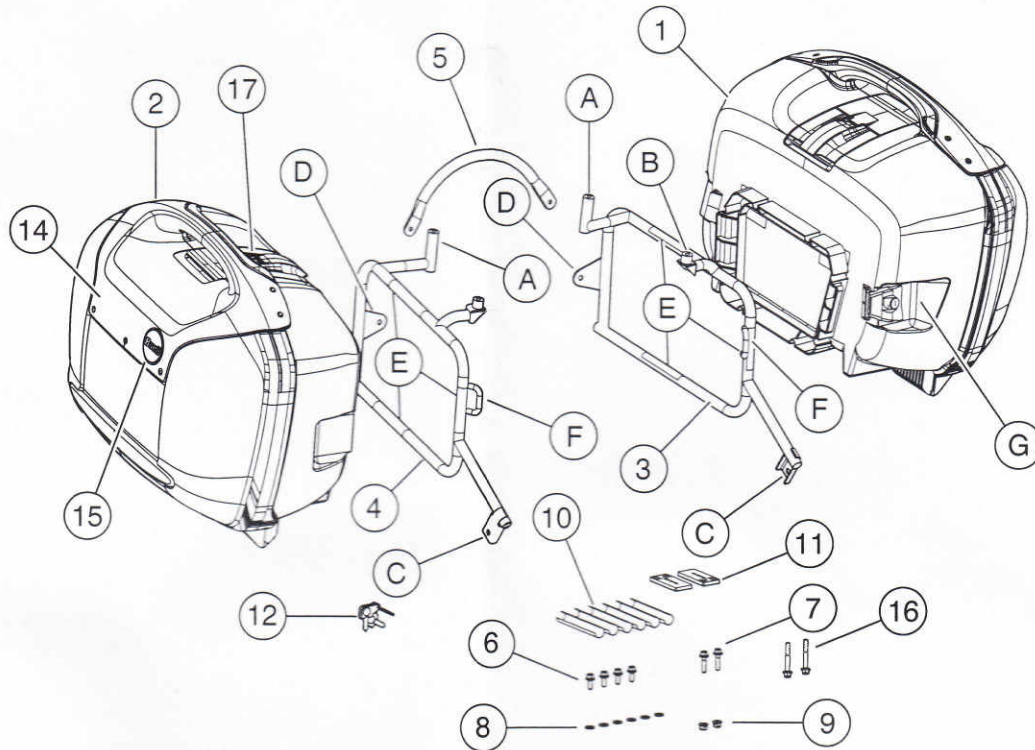

Figure 4. Service Parts: Ulysses Sidecase
See Figure 4 and Table 1.
1. See Figure 4. Insert a 1/4-20 x 5/8 inch hex head fastener (6) and a 1/4 inch lockwasher (8) through the lower forward mount of the bracket (C) and into the mount point behind the passenger foot peg bracket. Keep fastener loose at this time.
4. See Figure 4. Starting with the left sidecase bracket (3), insert a 1/4-20 x 2.0 inch hex head fastener (16) and a 1/4 inch lock washer (8) through the upper rear mount of the bracket (A) and into the forward mounting point of the license plate bracket. Hand tighten fastener at this time.
5. Insert a 1/4-20 x 1.0 inch hex head fastener (7) and a 1/4 inch lockwasher (8) through the upper front mount of the bracket (B) and into the left side trunk pan mounting point. Hand tighten fastener at this time.